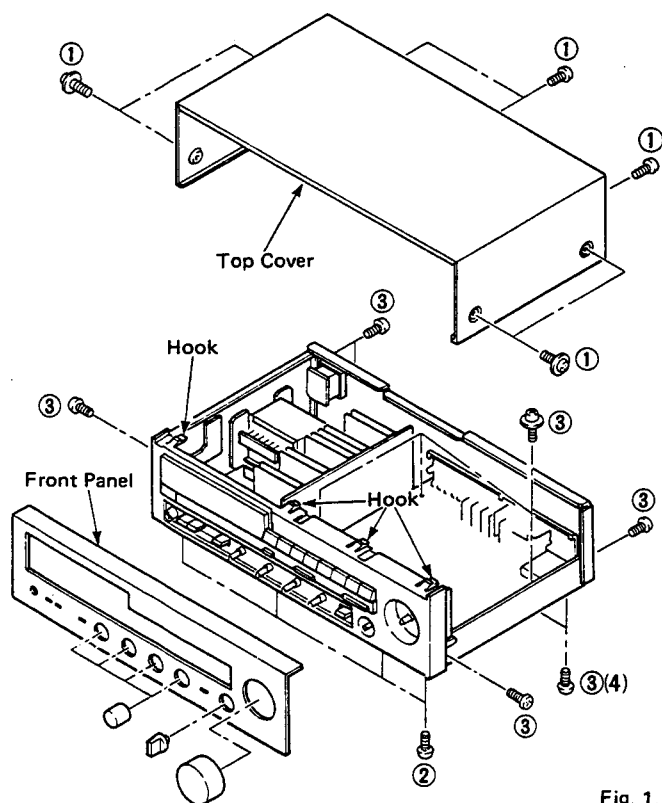

Fig. 1.
Remove 7 screws (①) in Fig. 1, and slide the Top Cover back.
Remove 4 screws (②) and 4 hooks in Fig. 1, and pull the Front Panel forward.
3. Check of Main Circuit Board (1) & replacement of parts.
a. Remove 12 screws (③) in Fig. 1.